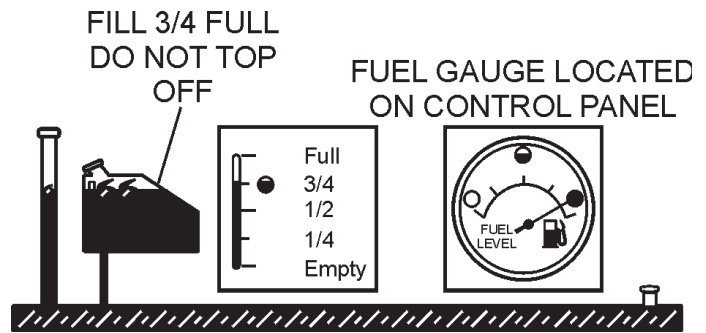

Figure 40. Full Fuel System
5. Figure 40 below reflects a full fuel system.